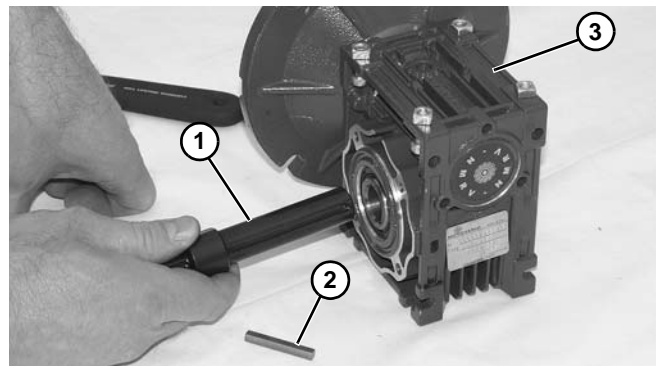

Figure 24
9. Remove driveshaft (**Figure 24, item 1**) and key (**Figure 24, item 2**).
10. Replace gear reducer (**Figure 24, item 3**).
12. Replace the original shaft components into new gear reducer (Figure 24).